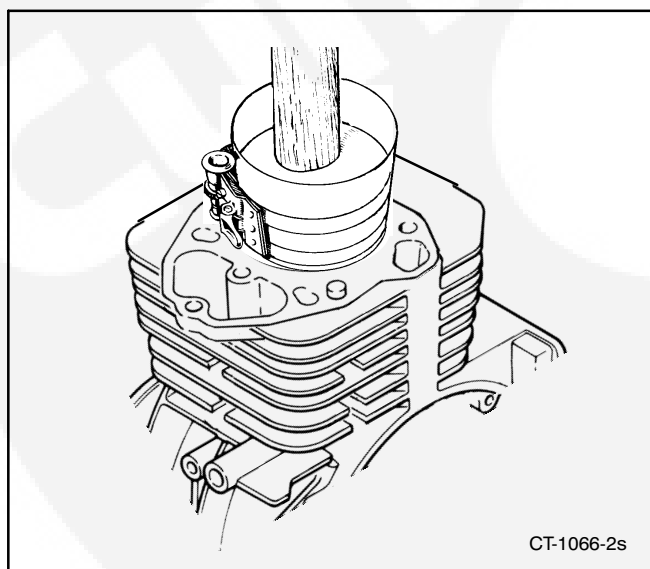

**FIGURE 10-23. ROD CAP ASSEMBLY**
**Installing Piston in Cylinder:** When installing the piston assembly, observe markings on the connecting rod, cap, and splasher and assemble in correct position. See Figure 10-23.